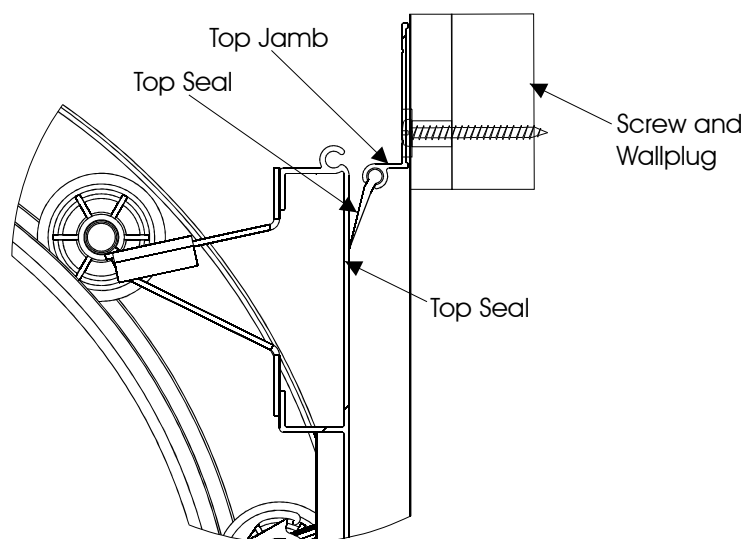

Fig. 11
1. Position the top Jamb against the top edge of the opening as shown in Fig. 11.